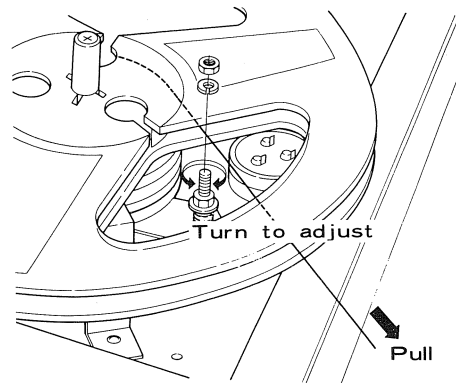

Fig. 10
3. If proper tension reading is not obtained, see Fig. 10. Turn tension adjustment nut. Clockwise rotation increases tension.